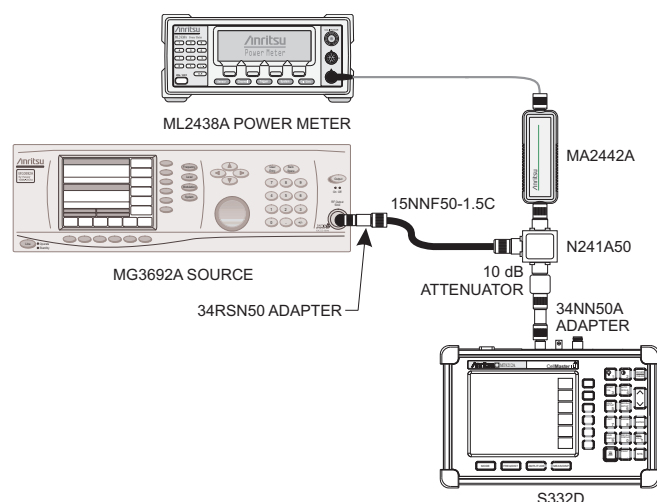

Figure 5. Power Meter Verification Setup
18. Using the power splitter, coaxial cable and adapters, connect the Site Master to the signal source and the power sensor as shown in Figure 5.